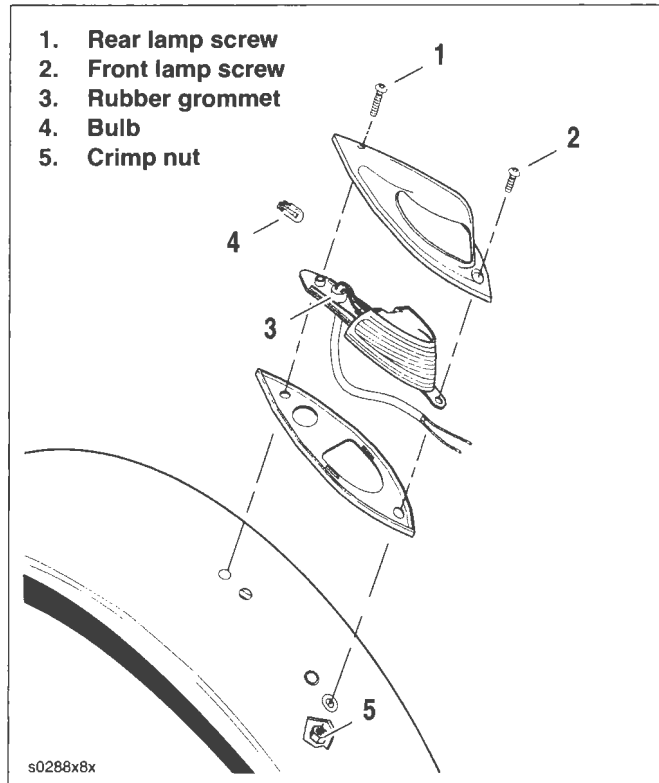

Figure 8-57. Fender Tip Lamp: FLSTSC
6. See Figure 8-57. Remove rear lamp screw (1), then remove front screw (2) while holding crimp nut (5) from inside of fender.
7. Remove lamp housing as an assembly, and pull rubber grommet (3) through fender.
3. See Figure 8-57. Using alcohol, or glass cleaner, lubricate the rubber grommet (3) and place it back into position in hole in top of fender. Install small grommet in side of fender.
4. Loosely install rear lamp screw (1).
5. Install front lamp screw (2) while holding nut (5) from inside of fender. Tighten screw securely.